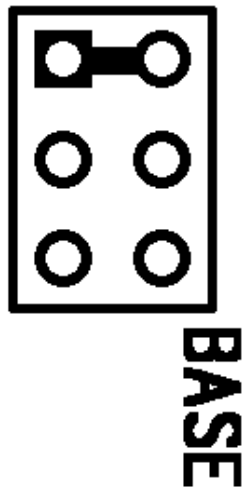

Fig. 2-2 Base address jumpers illustrating address 300h
- Fig. 2-2 Base address jumpers illustrating address 300h